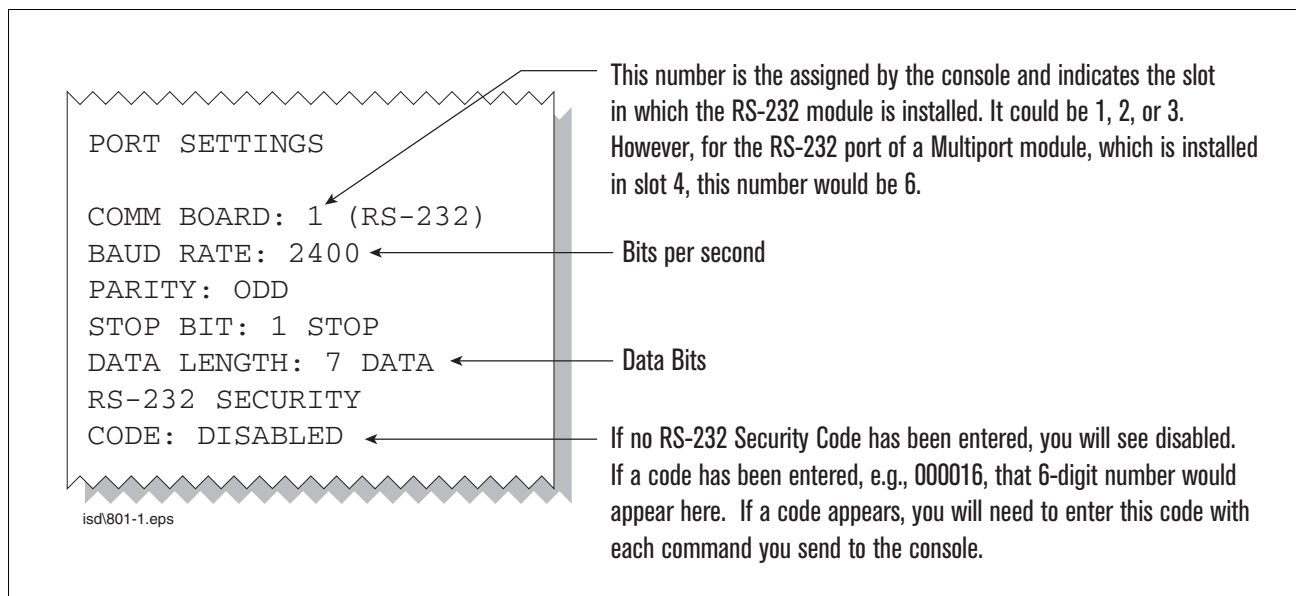

Figure 14. Console comm port settings printout example
- d. Press the PRINT key to printout the port settings for all communication modules installed in the console. Figure 14 shows an example port settings printout with the RS-232 module installed. Using the console port settings in the example below, your HyperTerminal 'Port Settings' window entries would be Bits per second - 2400, Data bits - 7, Parity - Odd, Stop Bits - 1. For the 'Flow Control' entry select None. Click OK.